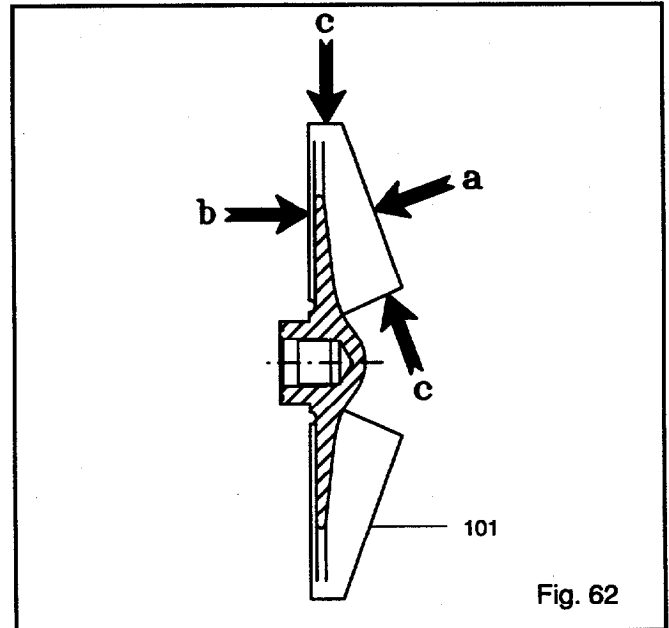

Fig. 62
1. Inspect impeller (101) vanes for damage. Replace if grooved deeper than 1/16 in. (1.6 mm) or if worn evenly more than 1/32 in. (0.8 mm). (Area "a" in Fig. 62)
2. Inspect pumpout vanes for damage. Replace if worn more than 1/32 in. (0.8 mm). (Area "b" in Fig. 62)
3. Inspect leading and trailing edges of the vanes for pitting, and erosion or corrosion damage. (Area "c" in Fig. 62.).